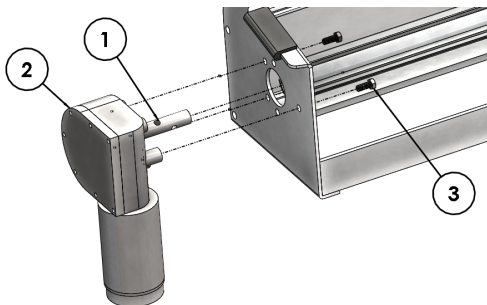

Figure 5.3
To install the electric motor, insert motor shaft (1) into center hole and align 3 mounting bolt holes. Secure motor (2) to end plate with (QTY 3) M8 x 1.25, 20mm class 8.8 bolts (3). (Figure 5.3)